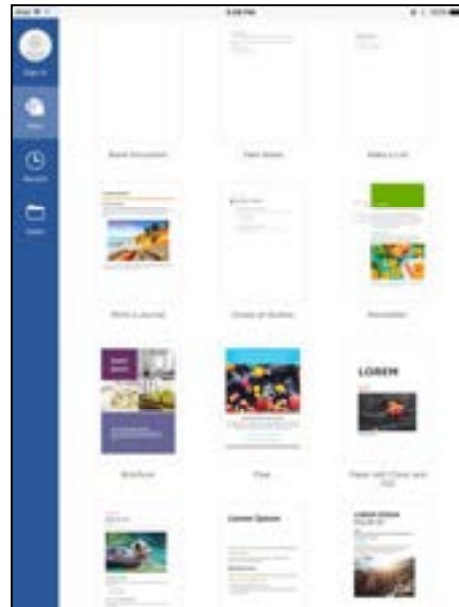

Figure 38
2.2 Open the document which is to be printed, as shown in Figure 38;